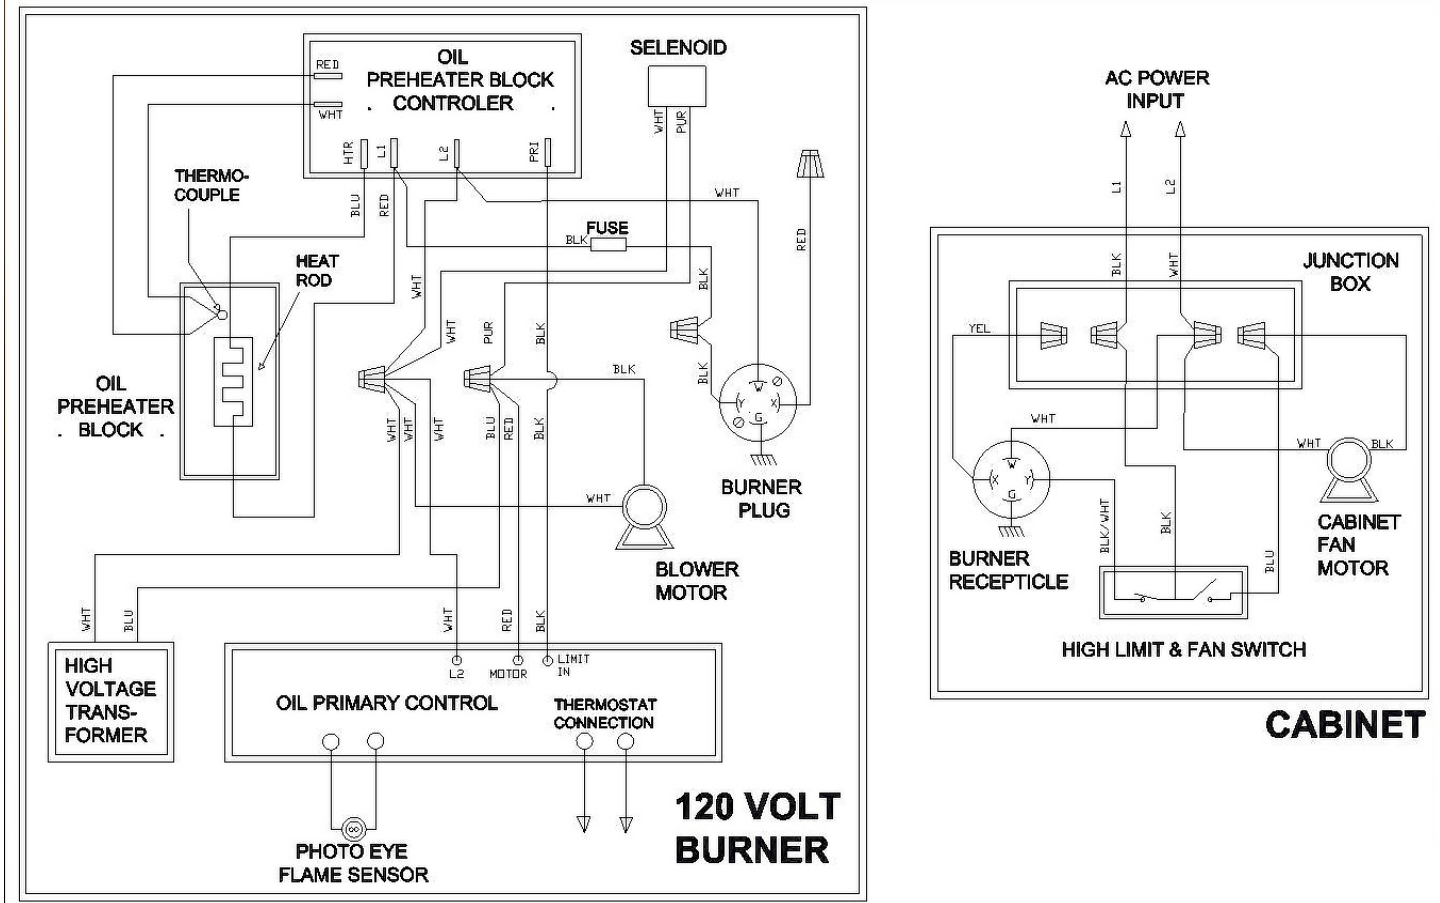

Figure 2 - Wiring Diagram
2. For optional draft inducers or power vent wiring, See Figure 2. One of these devices must be installed where back draft is present. In building or correct draft cannot be achieved.